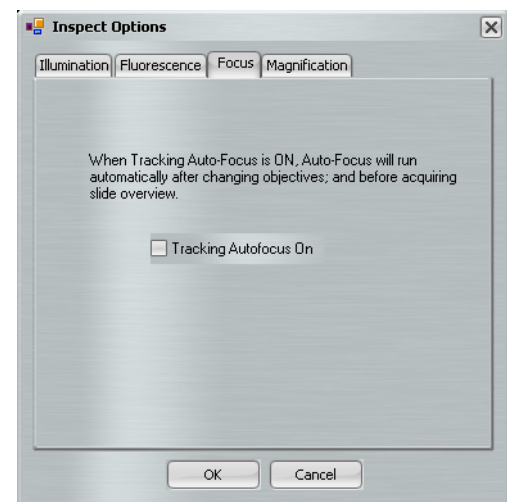

Figure 25 Autofocus.
2. Click the **Focus** tab (see Figure 25).